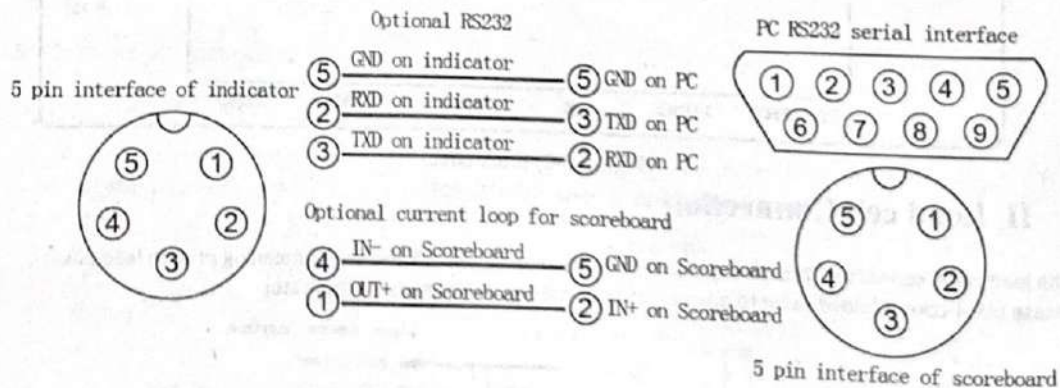

Figure 2-6 Communication and large screen connection
XK3190-A28E communication interface uses 5-pin socket (pin). Lead pin is defined as follows: pin 2 is for RS232 receiving wire, pin3 is for RS232 transmitting wire, and pin 5 is for ground wire; For the scoreboard interface also uses 5-pin socket(pin): pin 4 is for signal wire "-", Pin 1 is for signal wire "+", See Figure 2-6 for details.
Please refer to Figure 2-6 for the details of wiring. The signal of scoreboard is the 20mA constant current of current loop. It is output by binary code, and the baud rate is 600. Each frame has 11 date bits, which include one start bit (0), eight date bits (LSB in the front), one flag bit, and one stop bit (1)